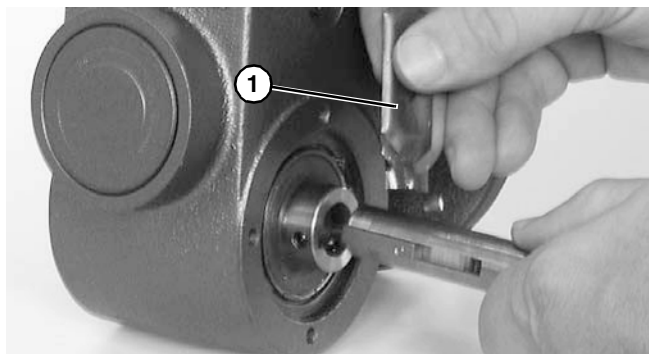

Figure 35
2. Apply anti-seize (**Figure 35, item 1**) to shaft.